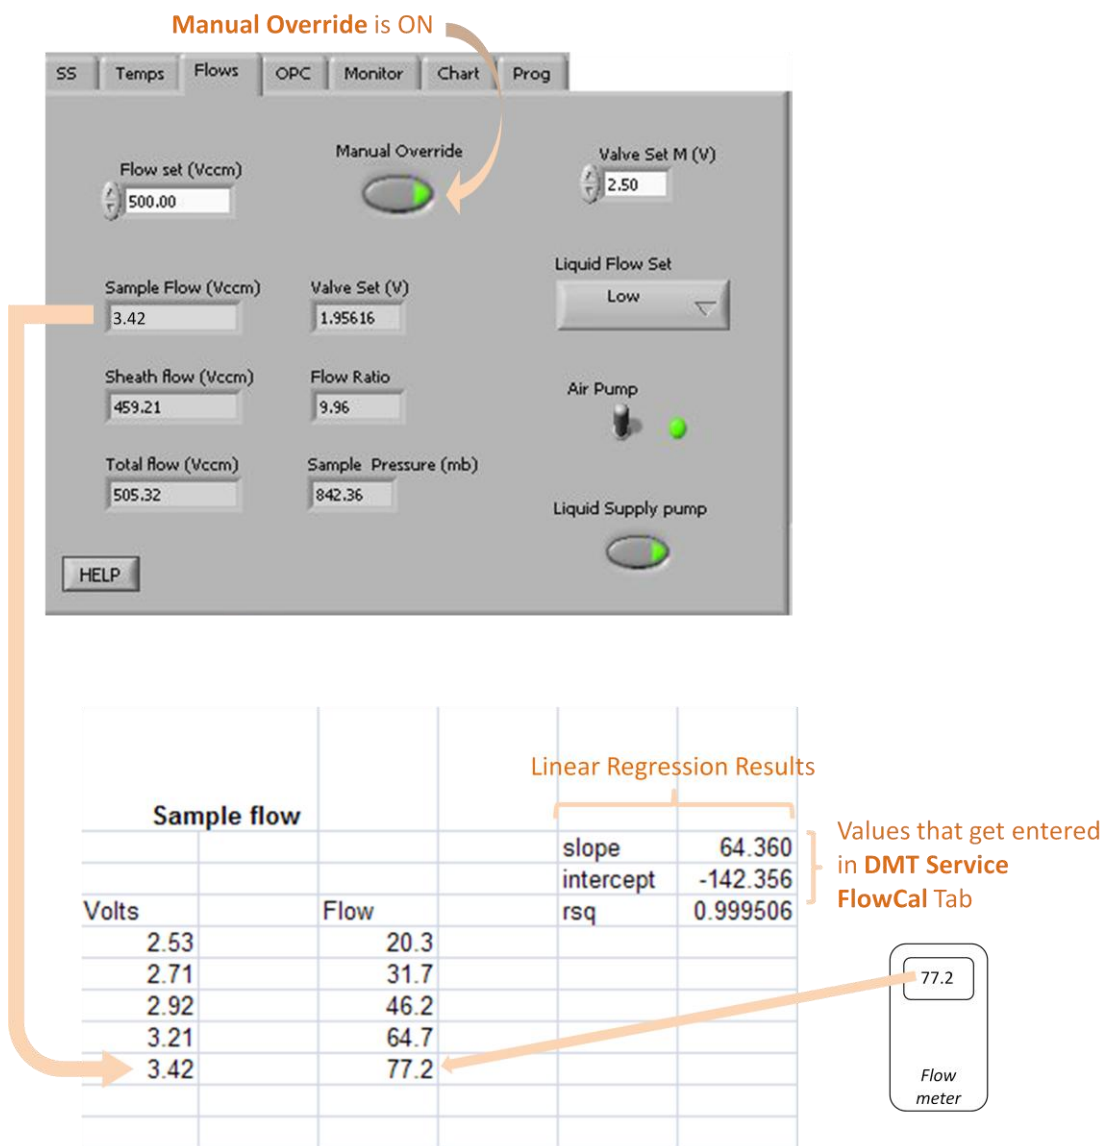

Figure 16: Inputs for CCN Flow Calibration Procedure
6. Go to the **Flows** tab on the CCN control window and turn on the **Manual Override** Button. Using the **Valve Set M (V)** field, adjust the valve voltage until the sample flow as measured on the external flow meter (*not* on the computer display) is approximately 75 Vccm. Once this flow is approximately 75 Vccm, record the flow from the flow meter in the flow column of the spreadsheet. Next, record the value displayed in the **Sample Flow (Vccm)** field in the volts column. (Because Step #2 sets the regression coefficients to 1 and 0, the **Sample Flow (Vccm)** indicator is now actually displaying the *voltage* from the sample flow differential pressure transducer.) This value typically ranges from 2.3 to 4.0 V. Do not record the **Valve Set M (V)** value for use in the regression. (You can record it for informational purposes, if you want to remember which settings are used to achieve specific flow rates.) See Figure 16.